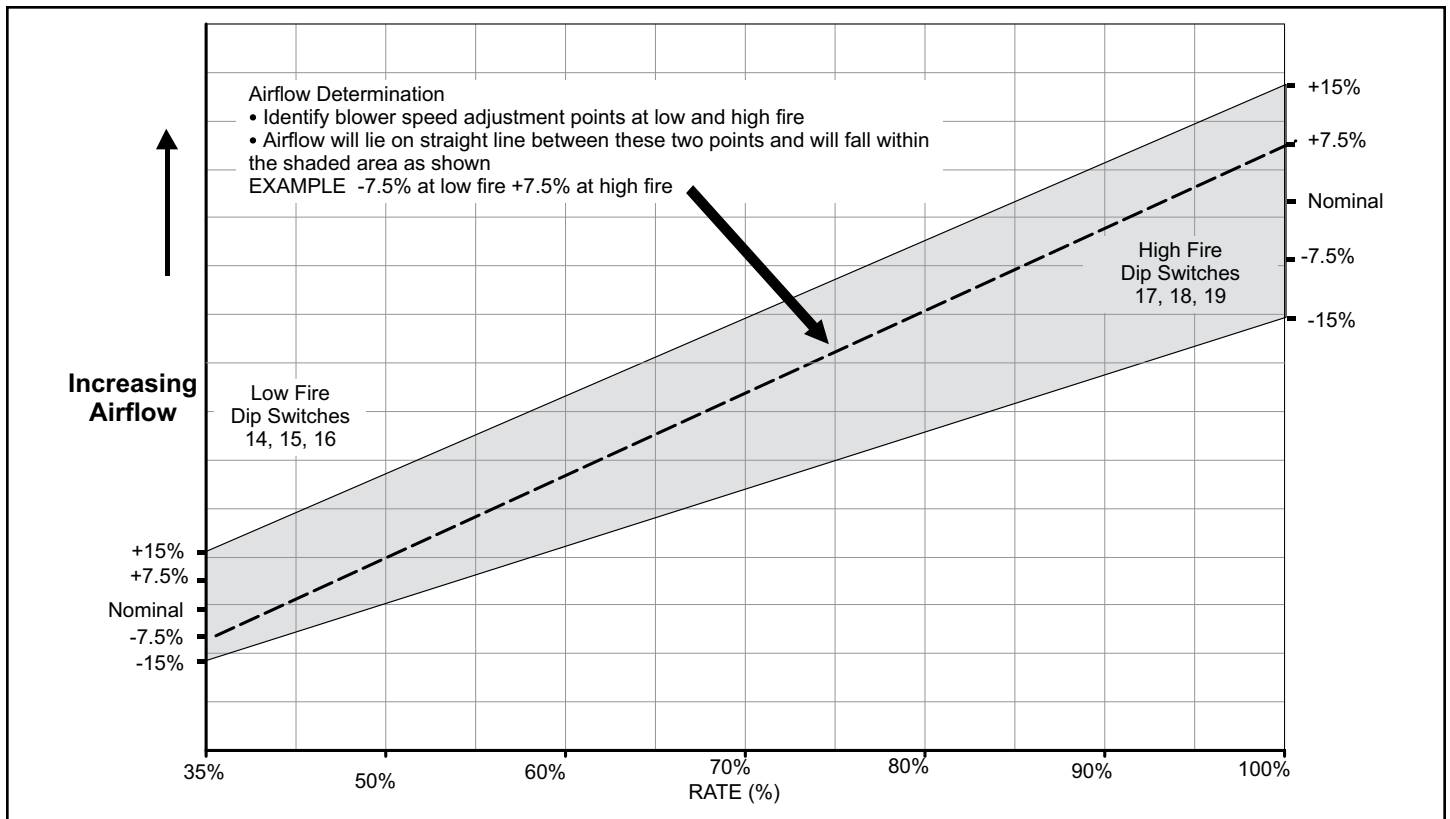

Figure 6.
-- Switches 14 through 19 are used to select heating mode blower motor speeds. These switches are factory set at the OFF position which provides 100 % of normal speed during HIGH HEAT demand, 70% of normal speed during MIDRANGE HEAT demand and 35% of normal speed during LOW HEAT demand. Switches 14, 15 and 16 are used to adjust the LOW FIRE blower motor speed. Switches 17, 18 and 19 are used to adjust the HIGH FIRE blower motor speed. Figure 6 and Table 8 and Table 9 provides the heating mode blower speeds that will result from different switch settings. Figure 6 indicates the effect the DIP switch settings have upon the heating airflow at various furnace firing rates.